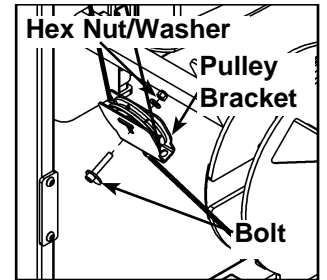

Figure 2
- E. Locate the pulley bracket that is located near the cam. See Figure 2.